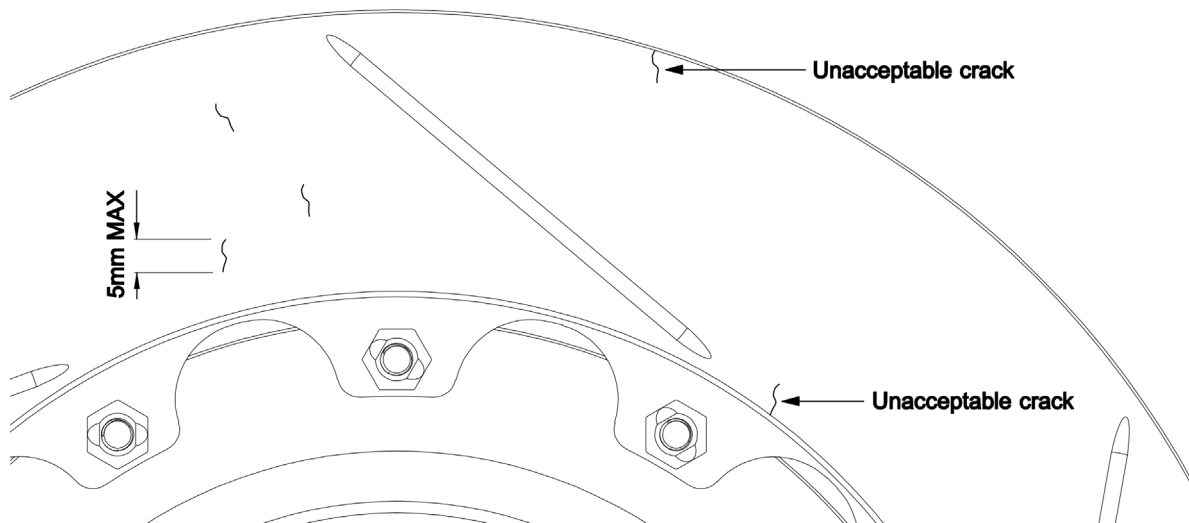

Fig. 2
- Inspect rotor surface (outside and inside). Refer to Fig 2. Check for cracks longer than 5 mm. Fine surface cracks (hairline cracks) shorter than 5mm are generally acceptable and are normal on rotors after heavy track use. In case the crack begins from the inside or outside diameter, even if the length is shorter, the rotor must be replaced.